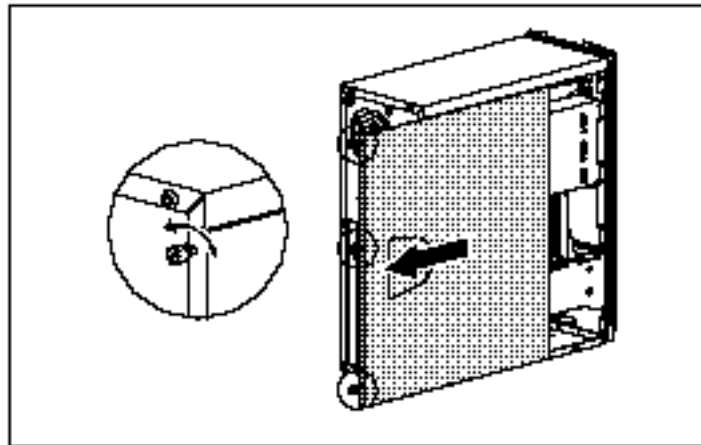

Figure E-1. Removing the side access panel
4. Slide the side access panel toward the rear of the unit. See Figure E-1.